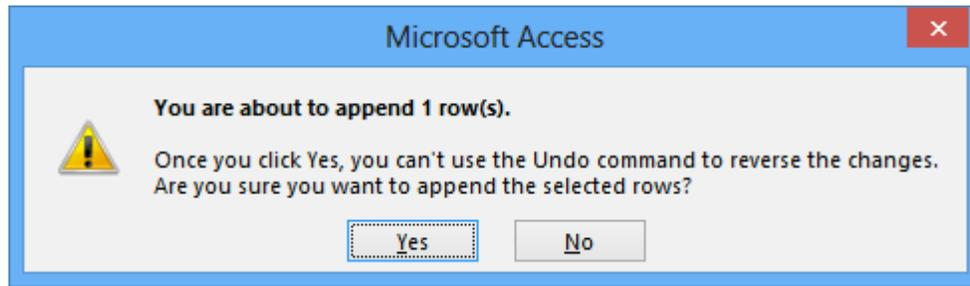

Figure 42: Append Message Box
2. Execute the Query: When you try to execute the query, the message in Figure 42 appears. Click the **Yes** button to insert the new record. You should only execute this query once. Executing it more than one time will insert duplicate records, except for the unique *PartNo* value generated by Access. Close and save the query as “SQL5” when prompted.